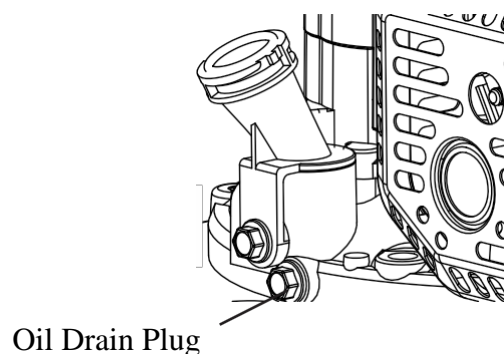

Fig. 19
### CHANGING OIL (Fig. 19)
2. Place an oil pan on the ground to catch oil. Remove oil drain plug to empty out the oil from the crankcase (Fig. 19).